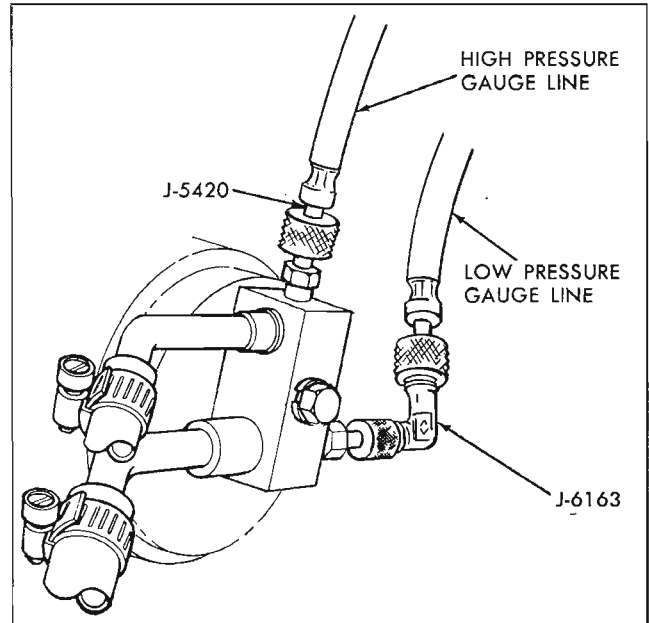

Fig. 6—Compressor Fittings Block with Gauge Lines Installed
- Connect the gauge line adapters to the threaded connectors on the compressor fittings block, see Figure 6.